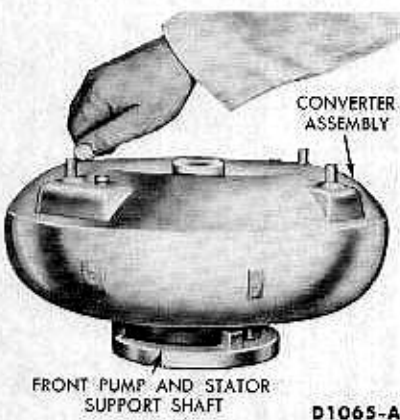

FIG. 2—Stator to Impeller Interference Check
1. Position a front pump assembly on a bench with the spline end of the stator shaft pointing up (Fig. 2).